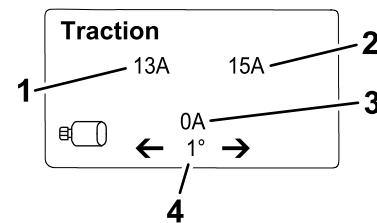

Figure 21
- **Traction information screen (Figure 21):** shows the current steering angle and the amperage allotted to each traction motor.